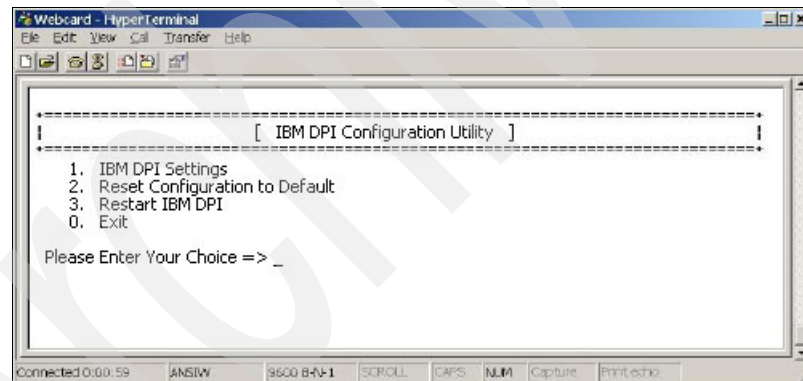

Figure 8-9 IBM DPI PDU+ console top menu
4. In the IBM DPI Configuration Utility panel, select option **1. IBM DPI Settings**, as shown in Figure 8-9, to set the IP address and other information.